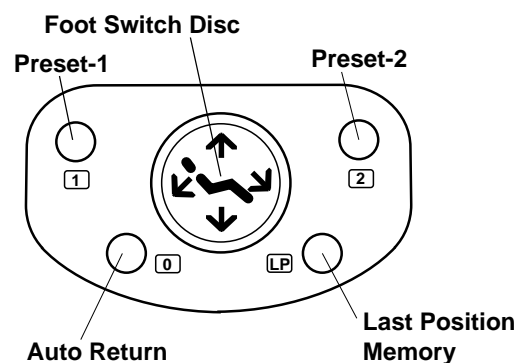

Fig.4-5 Foot Switch
(1) Preset position Adjustment (Fig.4-5)